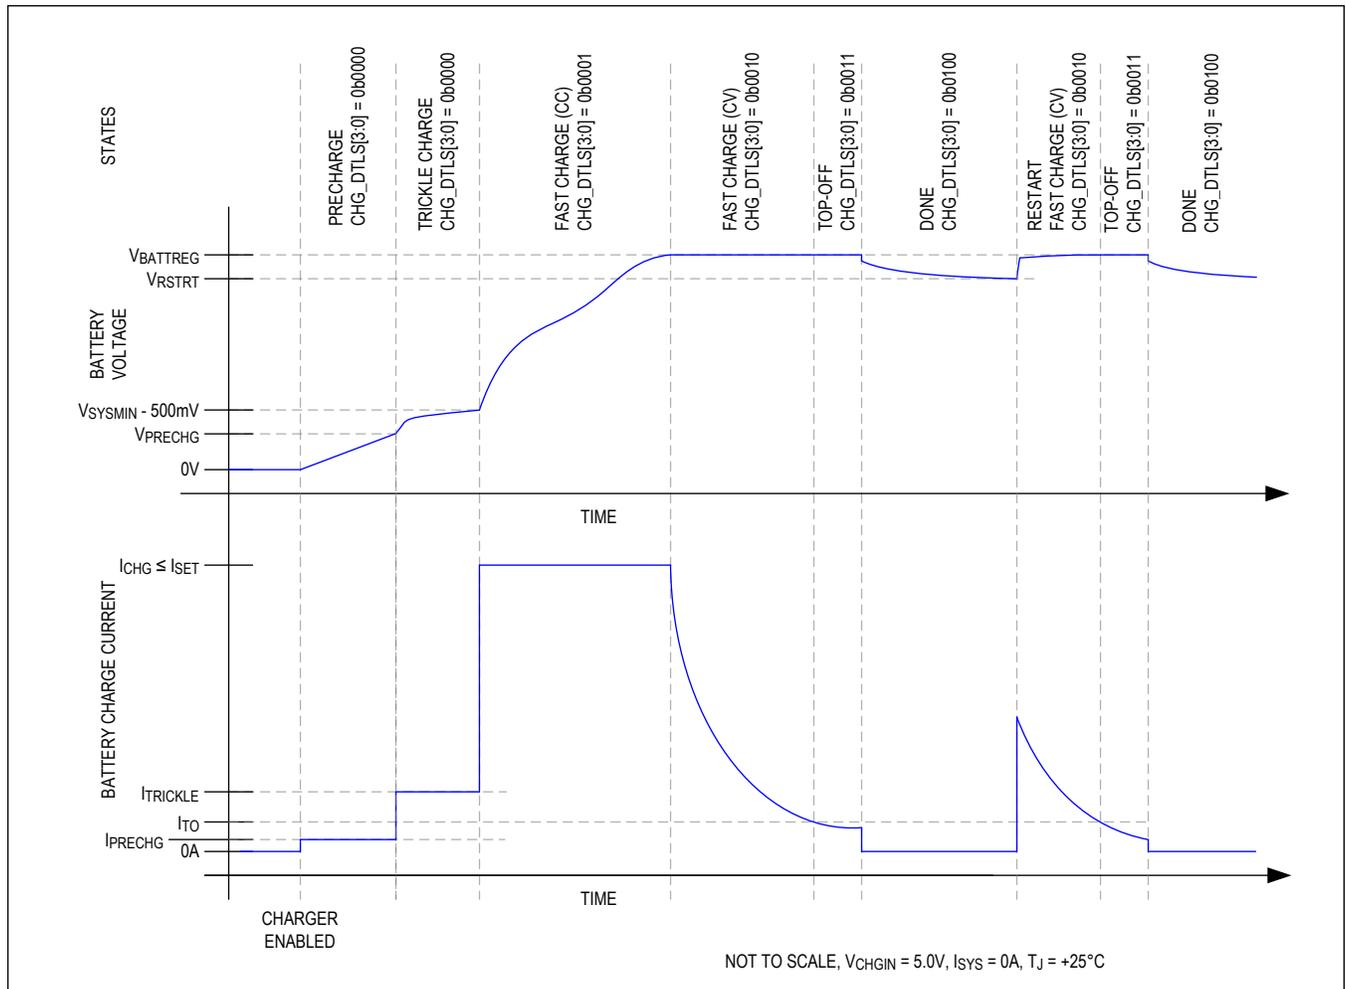
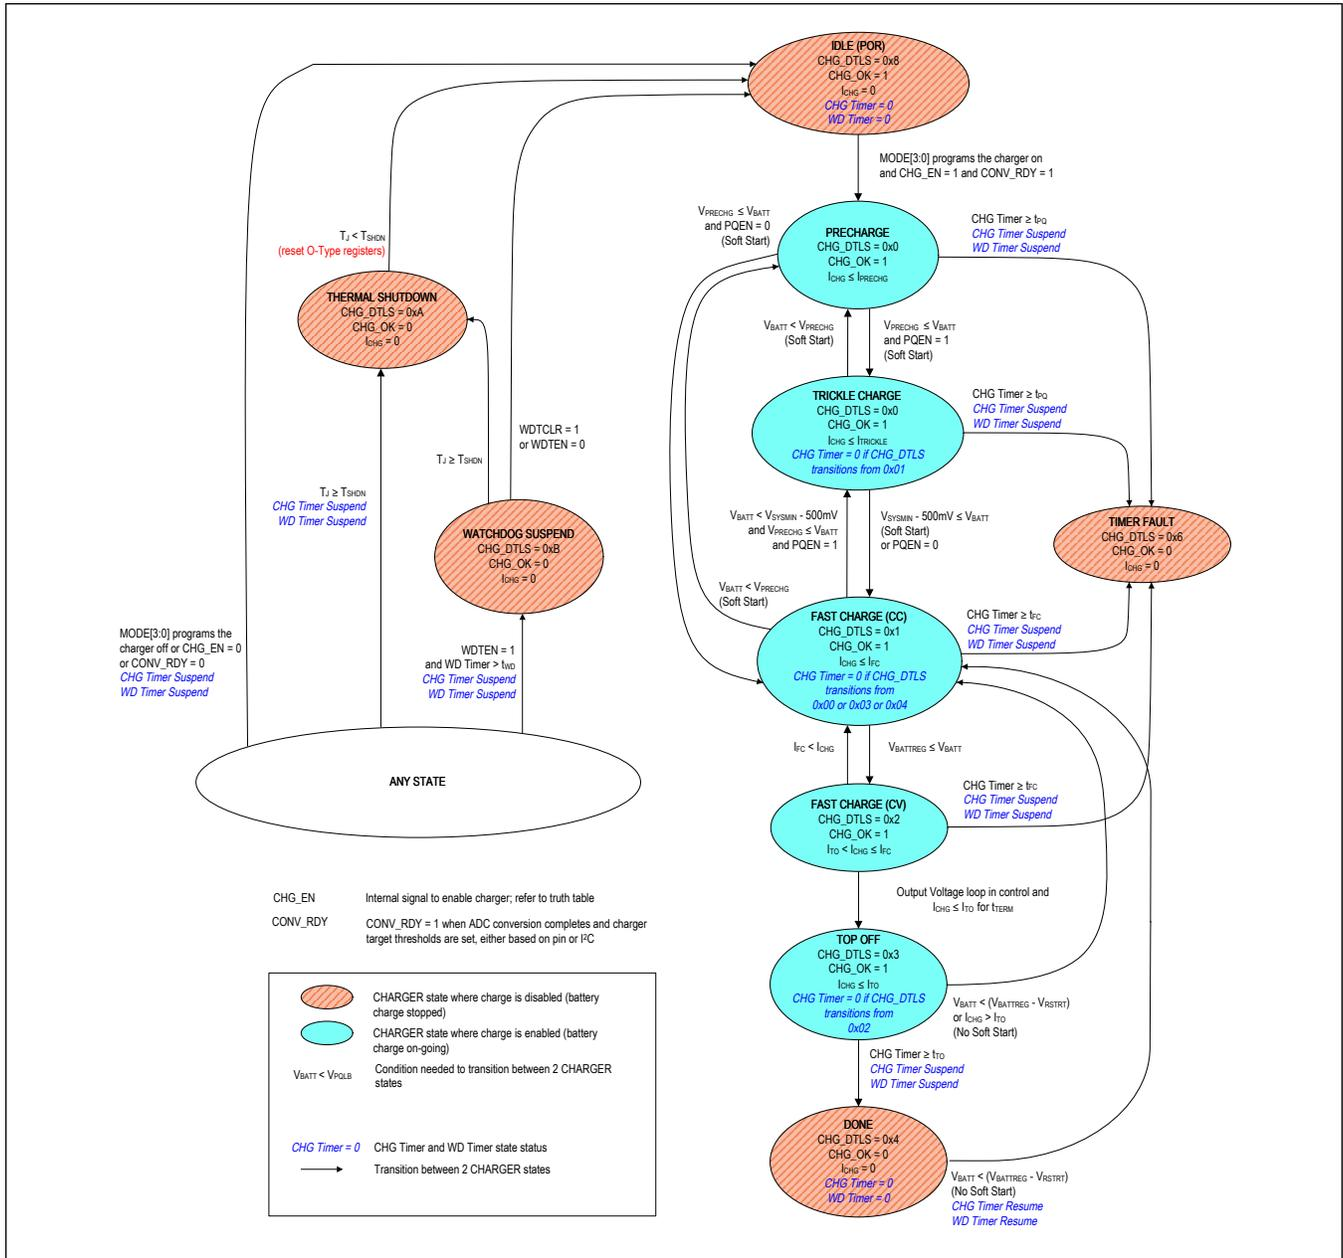

Figure 1. Li Battery Charge Profile
Figure 2. Charger State Diagram
The MAX77960/MAX77961 utilize several charging states to safely and quickly charge batteries as shown in Figure 1 and Figure 2. Figure 1 shows an exaggerated view of a Li+/Li-Poly battery progressing through the following charge states when there is no system load and the die and battery are close to room temperature: Prequalification → Fast-charge → Top-off → Done.
From any state shown in Figure 2 except thermal shutdown, the no input power or charger disabled state is entered whenever the charger is programmed to be off or the charger input CHGIN is invalid. After being in this state for t_{SCIDG} , CHG_DTLS is set to 0x08 and CHG_OK is set to 1. A CHG_I interrupt is generated if CHG_OK was 0 previously.
As shown in Figure 2, the charger enters the precharge state when the battery voltage is less than V_{PRECHG} . After being in this state for t_{SCIDG} , a CHG_I interrupt is generated if CHG_OK was 0 previously, CHG_OK is set to 1 and CHG_DTLS is set to 0x00. In the precharge state, charge current into the battery is I_{PRECHG} .
As shown in Figure 2, the charger state machine is in trickle charge state when $V_{PRECHG} < V_{BATT} < V_{SYSTEMIN} - 500mV$. After being in this state for t_{SCIDG} , a CHG_I interrupt is generated if CHG_OK was 0 previously, CHG_OK is set to 1 and CHG_DTLS = 0x00.
As shown in Figure 2, the charger enters the fast-charge constant current (CC) state when $V_{SYSTEMIN} - 500mV$ (typ) < $V_{BATT} < V_{BATTREG}$. After being in the fast-charge CC state for t_{SCIDG} , a CHG_I interrupt is generated if CHG_OK was 0 previously, CHG_OK is set to 1 and CHG_DTLS = 0x01.
As shown in Figure 2, the charger enters the fast-charge constant voltage (CV) state when the battery voltage rises to V_{BATTREG} from the fast-charge CC state. After being in the fast-charge CV state for t_{SCIDG} , a CHG_I interrupt is generated if CHG_OK was 0 previously, CHG_OK is set to 1 and CHG_DTLS = 0x02.
In the fast-charge CV state, the battery charger maintains V_{BATTREG} across the battery and the charge current is less than or equal to I_{FC} . As shown in Figure 1, charger current decreases exponentially in this state as the battery becomes fully charged.
As shown in Figure 2, the top-off state can only be entered from the fast-charge CV state when the charger current decreases below I_{TO} for t_{TERM} . After being in the top-off state for t_{SCIDG} , a CHG_I interrupt is generated if CHG_OK was 0 previously, CHG_OK is set to 1, and CHG_DTLS = 0x03. In the top-off state the battery charger maintains V_{BATTREG} across the battery and typically the charge current is less than or equal to I_{TO} .
As shown in Figure 2, the battery charger enters its done state after the charger has been in the top-off state for t_{TO} . After being in this state for t_{SCIDG} , a CHG_I interrupt is generated only if CHG_OK was 0 previously, CHG_OK is set to 0 and CHG_DTLS = 0x04.
The battery charger provides both a charge timer and a watchdog timer to ensure safe charging. As shown in Figure 2, the charge timer prevents the battery from charging indefinitely. The time that the charger is allowed to remain in its prequalification states is t_{PQ} . The time that the charger is allowed to remain in the fast-charge CC and CV states is t_{FC} , which is programmable with FCHGTIME. Finally the time that the charger is in the top-off state is t_{TO} which is programmable with TO_TIME. Upon entering the timer fault state a CHG_I interrupt is generated without a delay, CHG_OK is cleared and CHG_DTLS = 0x06.
The charger is off in the timer fault state. The charger can exit the timer fault state when the charger is programmed to be off then on again through the MODE bits or when DISQBAT pin is toggled from L-H-L. Alternatively, the charger input can be removed and reinserted to exit the timer fault state (see the ANY STATE bubble in Figure 2).
The battery charger provides both a charge timer and a watchdog timer to ensure safe charging. As shown in Figure 2, the watchdog timer protects the battery from charging indefinitely in the event that the host hangs or otherwise cannot communicate correctly. The watchdog timer is disabled by default with WDTEN = 0. Enable the feature by setting WDTEN = 1. With watchdog timer enabled, the host controller must reset the watchdog timer within the timer period (t_{WD}) in order for the charger to operate properly. Reset the watchdog timer by programming WDTCLR = 0x01.
As shown in Figure 2, the state machine enters the thermal shutdown state when the junction temperature (T_J) exceeds the device's thermal shutdown threshold (T_{SHDN}). When T_J is close to T_{SHDN} , the charger would have already folded back the input current to 0A, (see the Thermal Foldback section for more details), so the charger and the DC-DC are effectively off. Upon entering this state, CHG_I interrupt is generated if CHG_OK was 1 previously, CHG_OK is cleared, and CHG_DTLS = 0x0A.